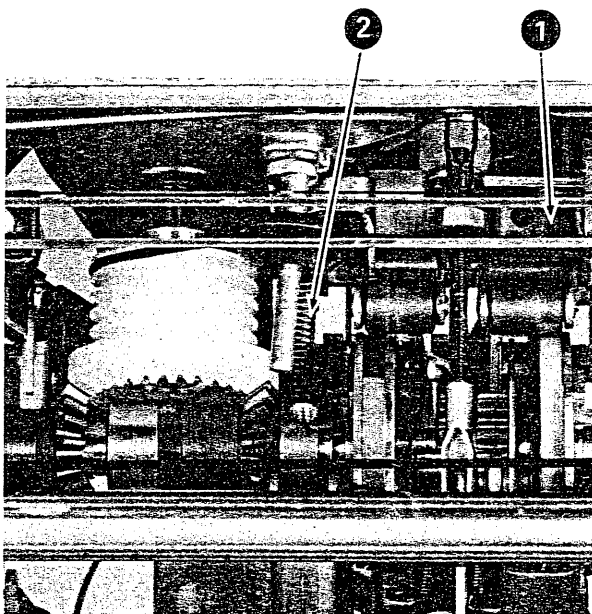

Figure 4-43. Operational-Cam-Follower Removal
2. Remove the C-clips from the cam-follower pivot shaft (No. 1, Figure 4-43).
3. Remove the auxiliary cam-follower spring (No. 2, Figure 4-43).